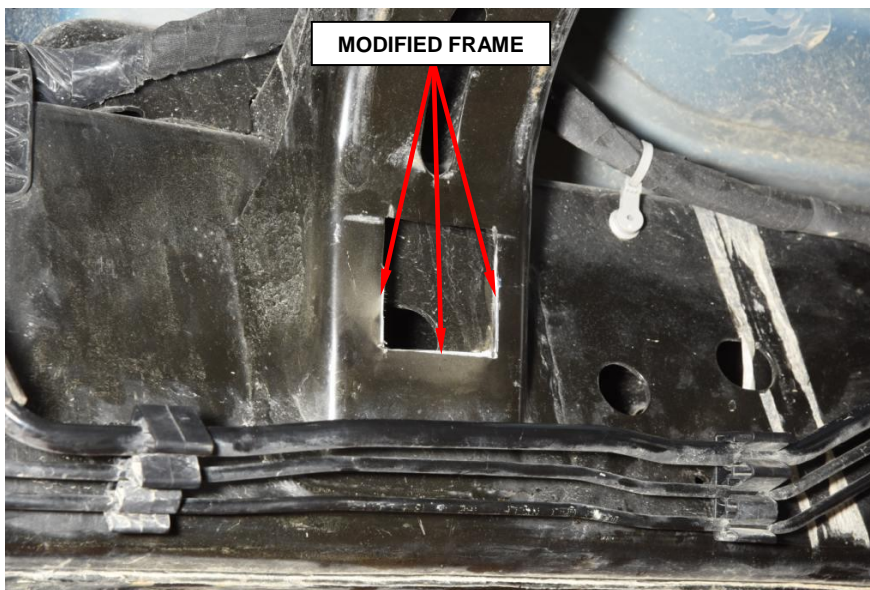

Figure 16 – Cutout
41. Using an appropriate metal cutting tool, cut along the marked lines to remove the metal (Figure 16).